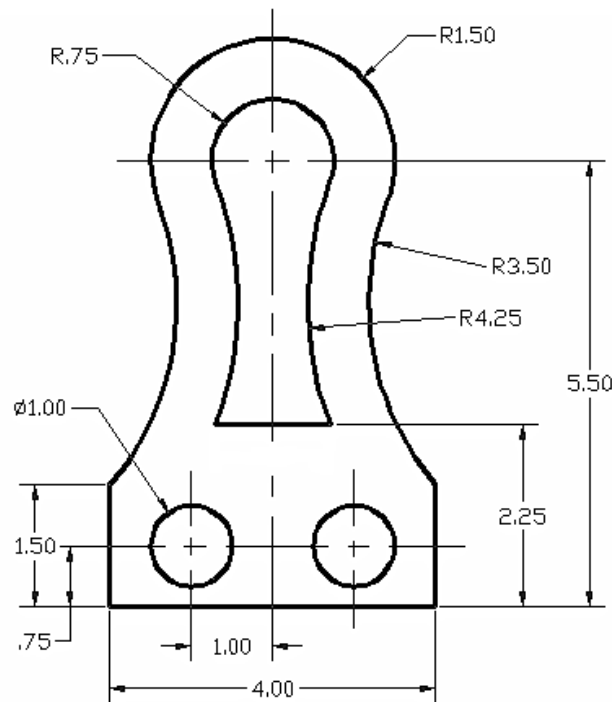

Figure 3
12. Figure 3 shows the sectional orthographic view of an object. Perform the following tasks: